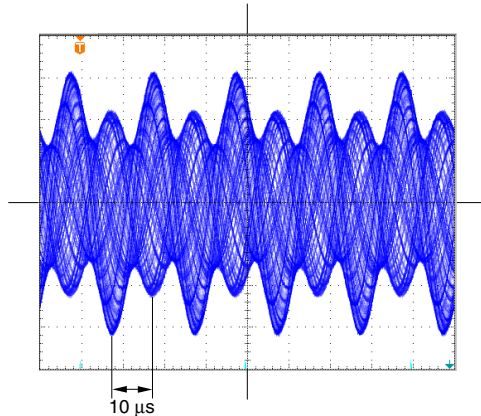
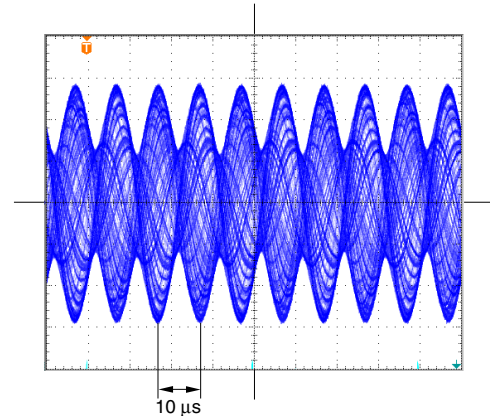

Fig. 4-7
Fig. 4-8
- 3** Turn the G-BAL trimmer all the counter-clockwise. Moving the scale displays the waveform shown in Fig. 4-7. Next, adjust the DC-2 trimmer so that the amplitudes of adjacent peaks are equal as shown in Fig. 4-8.
- 4** Turn the G-BAL trimmer all the clockwise. Moving the scale displays the waveform shown in Fig. 4-7 in the same way as before. Next, adjust the DC-1 trimmer so that the amplitudes of adjacent peaks are equal as shown in Fig. 4-8.